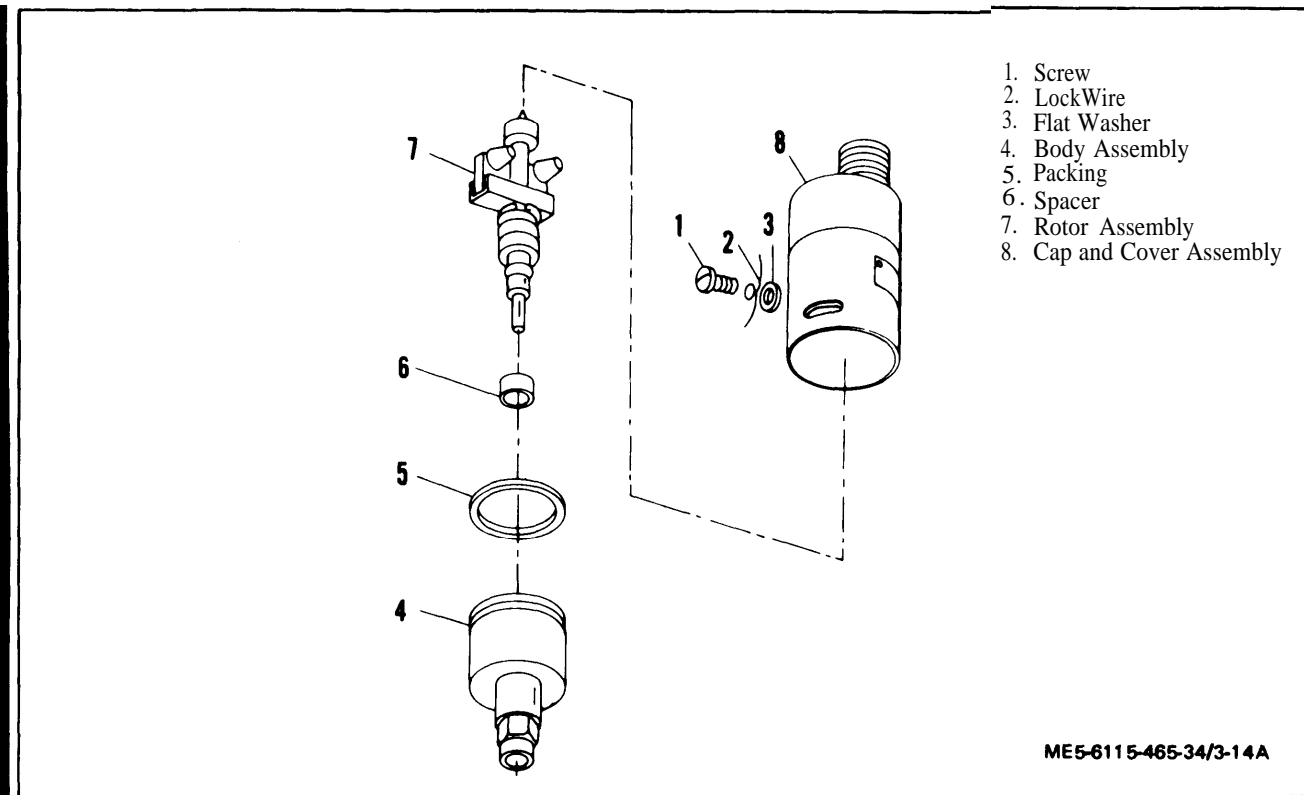

Figure 3-14.1 Speed Switch. Exploded View Effective with Serial No. RZ70001 and KZ027251 thru KZ027520
(1) Remove screws (1, figure 3-14.1), lock wire (2) and flat washers (3).
(2) Remove body assembly (4), packing (5), spacer (6) and rotor assembly (7) from cap and cover assembly (8),